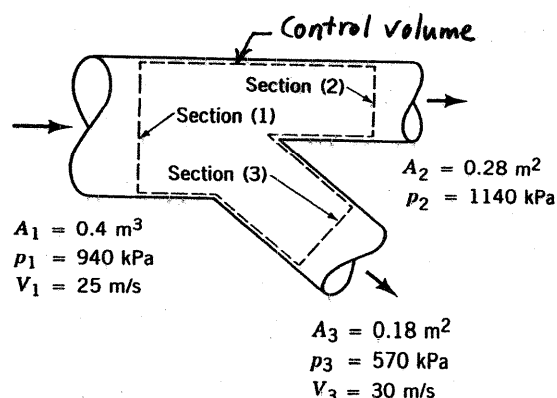

FIGURE P5.105
5.105 Water flowing in a pipe with a velocity of 25 m/s and a static pressure of 940 kPa is split into two branches as indicated in Fig. P5.105. If the measured static pressure at sections (2) and (3) and the velocity measured at section (3) are as shown in Fig. P5.105, determine the amount of available power lost in the horizontal y connection.